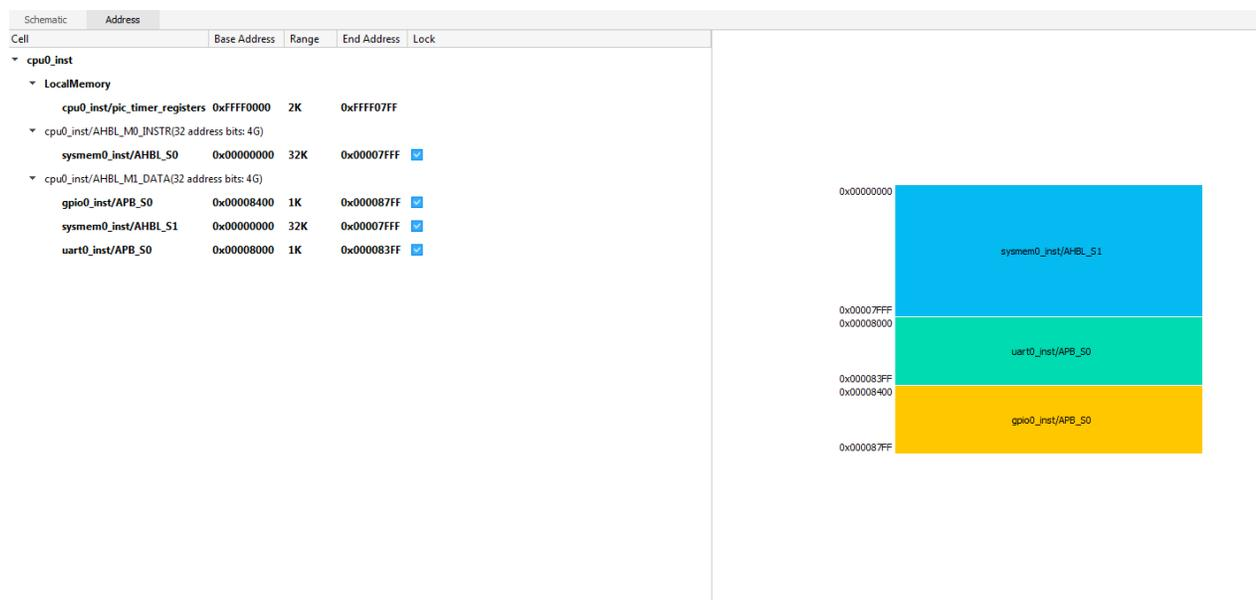

Figure 2.41. Address View
1. In the Propel Builder main window, click the Address tab. The Address view (Figure 2.41) shows.